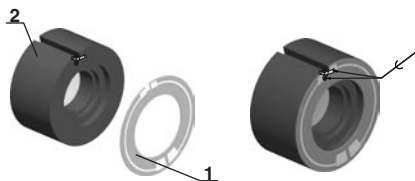

FIGURE 4-2. INSTALLATION OF THE BOARD TO THE TUBE
- Unsolder tube wires from the board on the tube end (Figure 4-2). Accurately separate the board (Figure 4-2, 1) from the tube for second using.
- Align the board groove with the tube groove and glue the board (Figure 4-2, 1) onto the rear end surface of the tube (Figure 4-2, 2).